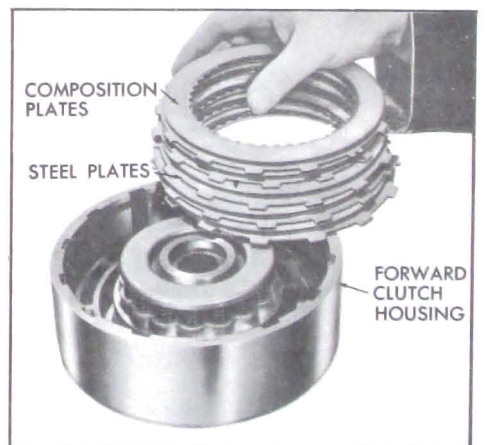

Figure 5-613
4. Remove five (5) composition and five (5) steel clutch plates. See Figure 5-613.